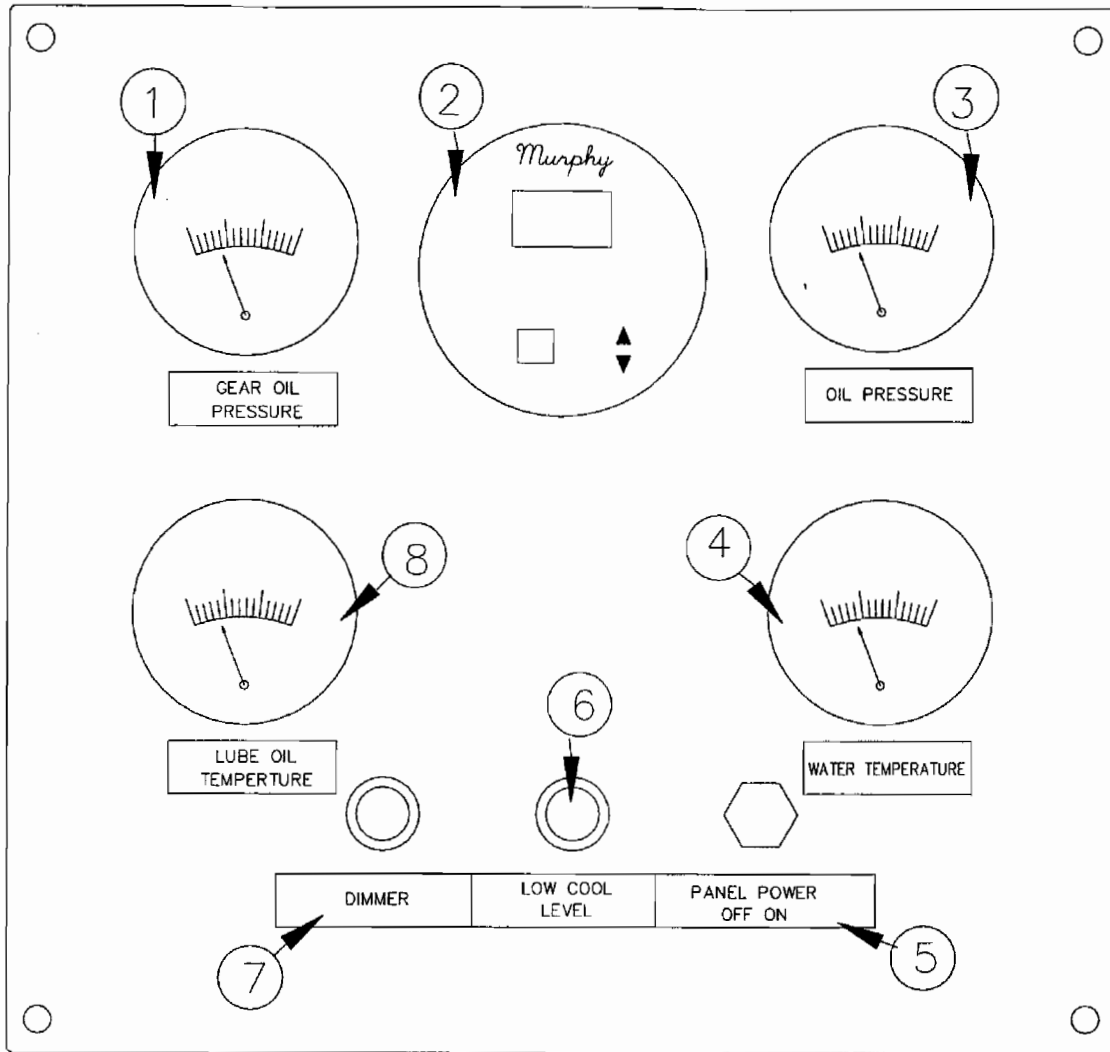

Figure 1-30. Main Engine Gauge Panel
- (b) Engine Gauge Panels. An engine gauge panel is provided for each propulsion engine. The panels are located on the PilotHouse console and are located one on the port side and one on the starboard side, corresponding to the appropriate engine. Figure 1-30 depicts the engine gauge panels. The engine gauge panels include the following: